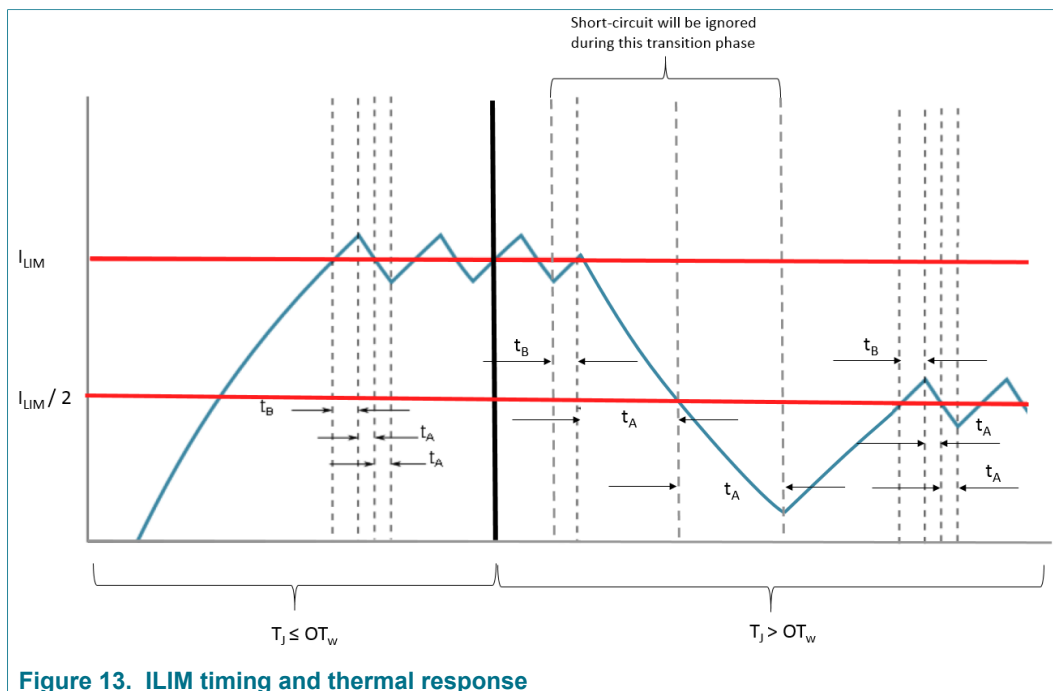

Figure 13. ILIM timing and thermal response
After $2 * t_A$, the control of the gates releases, restoring the output to the configuration set by the inputs. If the average output FET temperature exceeds the die temperature warning threshold (OT_W), the current limit threshold is set to 50 % of its original value selected via SPI and output keeps switching with t_B set at 32 μ s with t_A as explained above and in Figure 13. The temperature dependent blanking time does not change during the blanking interval. Input control does not cause the output to switch ON while current is greater than I_{LIM} . Input control commanding the output to switch OFF immediately switches OFF the output and resets the I_{LIM} circuit.
*Short-circuit is ignored when $T_J > OT_W$ for an interval of $t_B + 2*t_A$ while current limit threshold transitions to 50 % of its set value as shown in Figure 13. Although, short-circuit is ignored for this small time interval, overtemperature protection will still be able to protect the FETs in this time interval if excessive heating happens due to a short-circuit event or high temperature transients.*